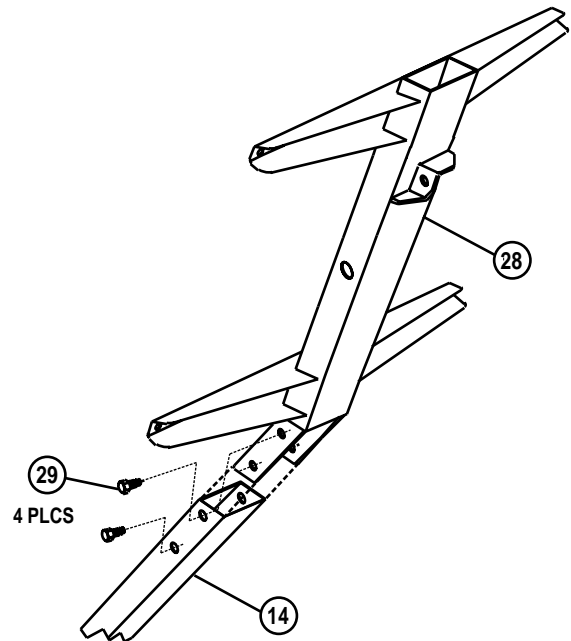

FIGURE 1.1
2 - Assemble bottom tube (14) to backframe (28) as shown in Figure 1.1. Torque M12 Bolt (29) to 35-40 ft-lbs (47-54 N-m).
5 - Insert four M12 x 100mm Round Head Square Neck Bolts (1) into reflector (2) and place reflector onto backframe. Secure reflector to backframe with four M12 lock washers and hex nuts (4 & 5). Tighten and torque to 20 Ft-lbs (27 N-m). Refer to Figure 1.4. Torque cross arm bolts (12) (Figure 1.1) 4 places to 40-45 ft-lbs (58 N-m).